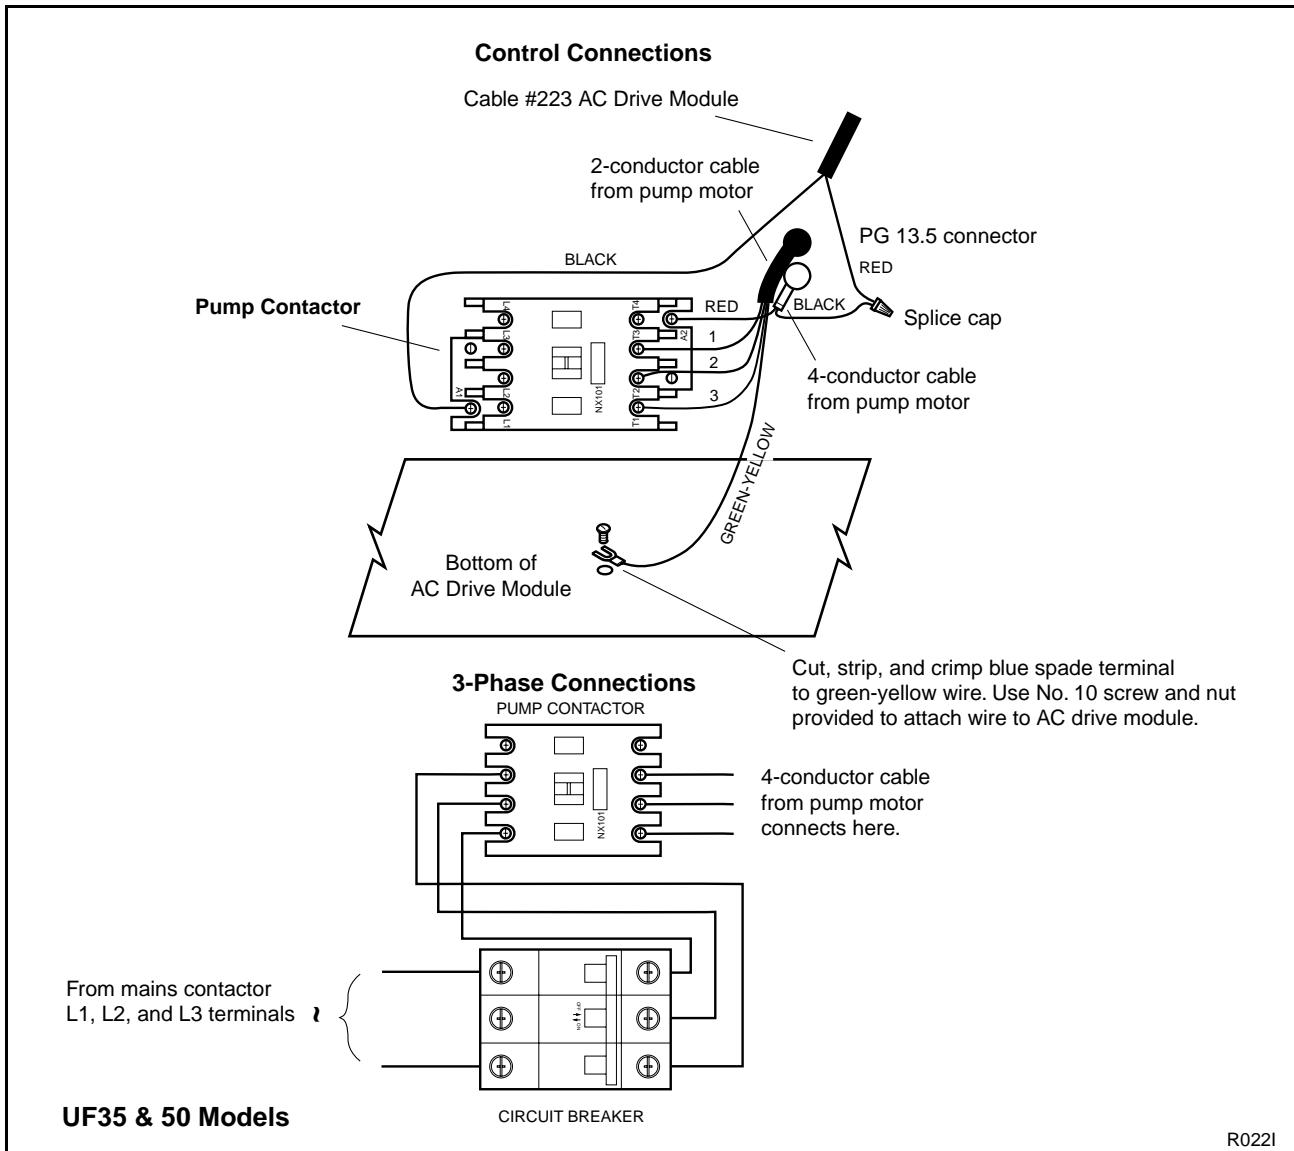
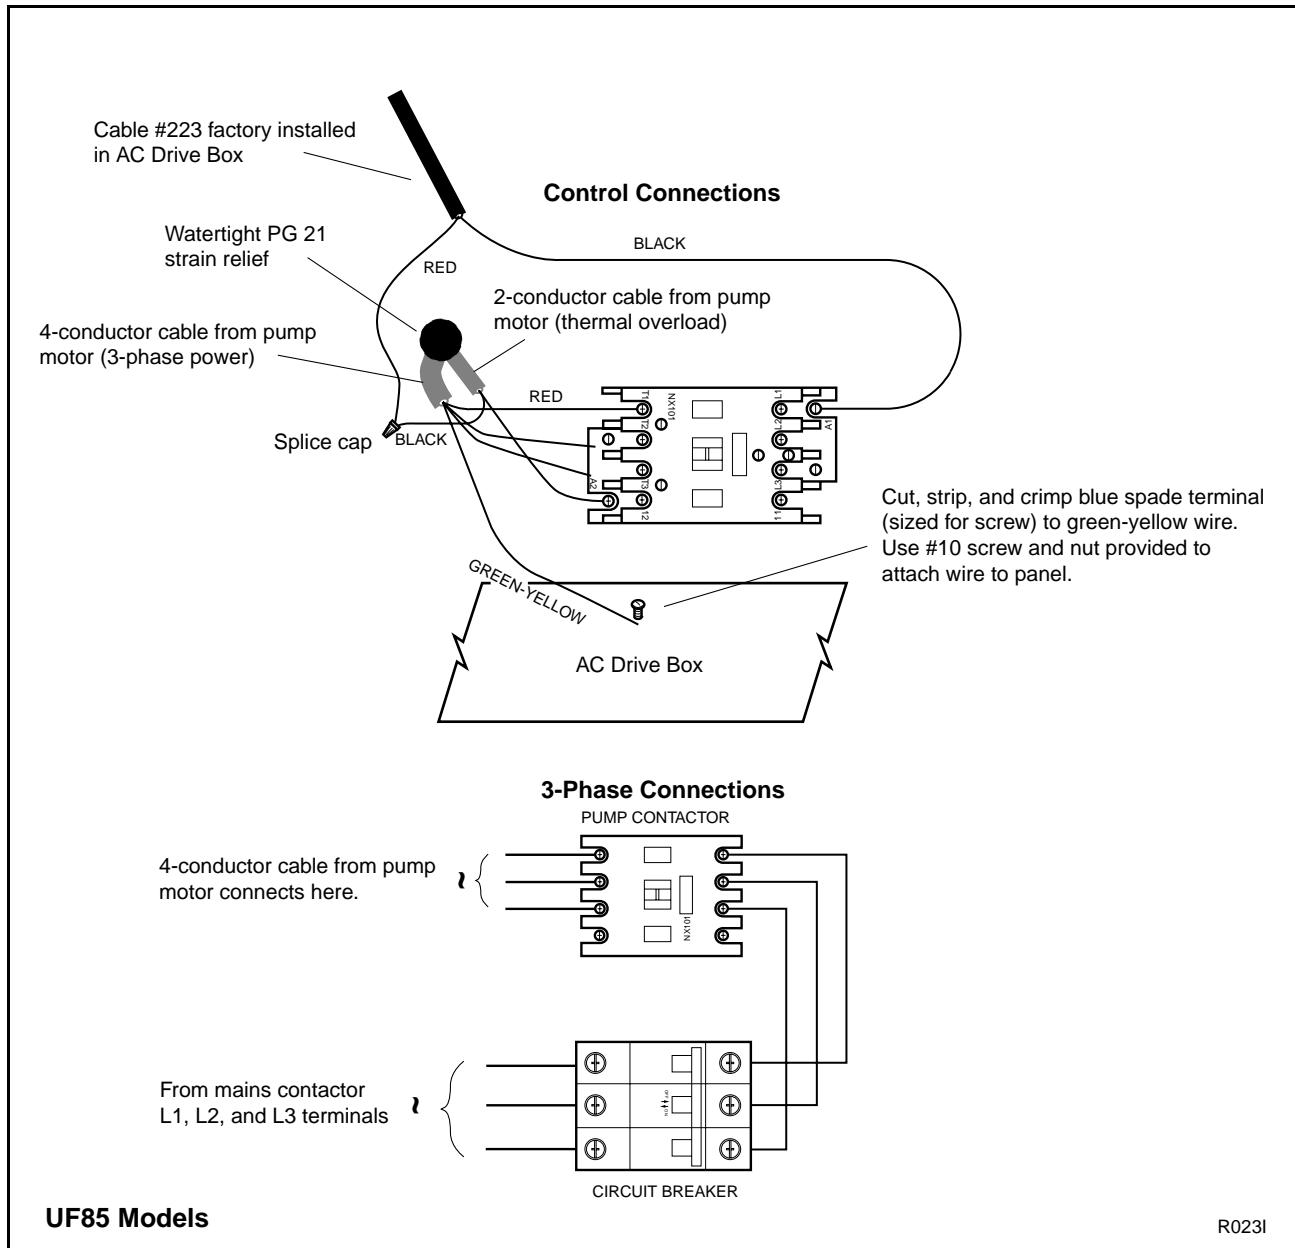

Figure 23
Figure 24
- On the 35- and 50-pound models,* install two PG 13.5 watertight strain reliefs, included in the kit, in place of each of the top two plugs. See Figure 23. *On the 85-pound models,* install the PG 21 strain relief in place of the second plug from the top. See Figure 24.
- d. *One the 35- and 50-pound models,* route the 2-conductor and 4-conductor cable through the two PG 13.5 strain reliefs installed in step b. See Figure 23. *On the 85-pound model,* route both the 2-conductor cable and the 4-conductor cable through the PG 21 strain relief as shown in Figure 24.
- e. Connect red wire in the 2-conductor cable from the canister/filter/pump assembly to terminal A2 of the pump contactor. See Figure 23.